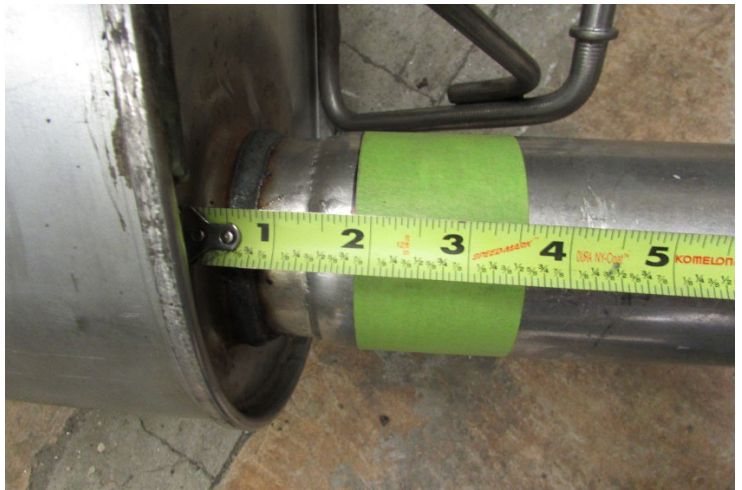

Figure.3
2. Measure out from the muffler end cap 1 3/4", mark the Muffler Outlet Tube at that location. **Figure.3**